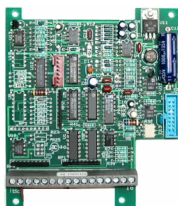

FIGURE 1. Top view of electronic Forward-Brake-Reverse Board showing components and connections to speed potentiometer and F-B-R Switch
- 1. Select Braking Resistor**—A 100 Ohm 25 Watt resistor is connected to the board for use with control Models 810 and 815. For control Models 830 and 835, the 100 Ohm resistor should be replaced with the 50 Ohm 25 Watt resistor. For control Models 850 and 855, the 100 Ohm resistor should be replaced with the 25 Ohm 25 Watt resistor included in the kit. Simply remove the two screws and nuts holding the 100 Ohm resistor to the board (**Figure 1**) and fasten the proper resistor in its place, using the same screws and nuts.
3. Insert the 4-pin connector from the F-B-R Board into connector J2 on the driver board (**Figures 1 and 3**).
4. Insert the ribbon cable provided in your F-B-R Kit into J1 on the driver board (**Figure 3**) and J8 on the F-B-R Board (**Figure 1**).
(1) Identify the wired connector for the speed pot and F-B-R Switch or speed and direction input signals (**Figure 1**). Refer to Manual No. 07400156 for instructions for making electrical connections. After connections have been made, insert the connector into J7 on the F-B-R Board.
(3) Insert the ribbon cable from J3 of the analog board (**Figure 2**) to J7 of the F-B-R Board (**Figure 1**).